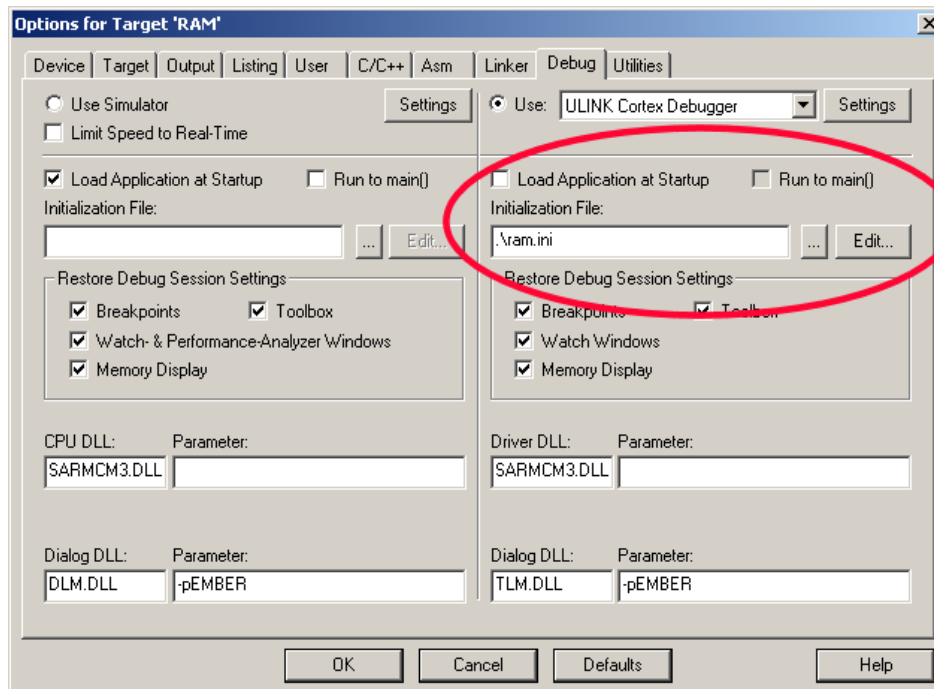

Figure 32: Selecting ram.ini
21. In the Initialization File: box, enter ram.ini as shown in Figure 32. You can use the Browse icon.